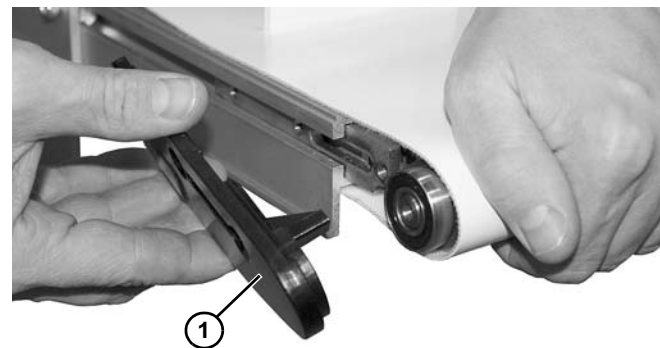

Figure 93
3. Remove the head plate (Figure 93, item 1) from the conveyor frame, holding spindle in place.